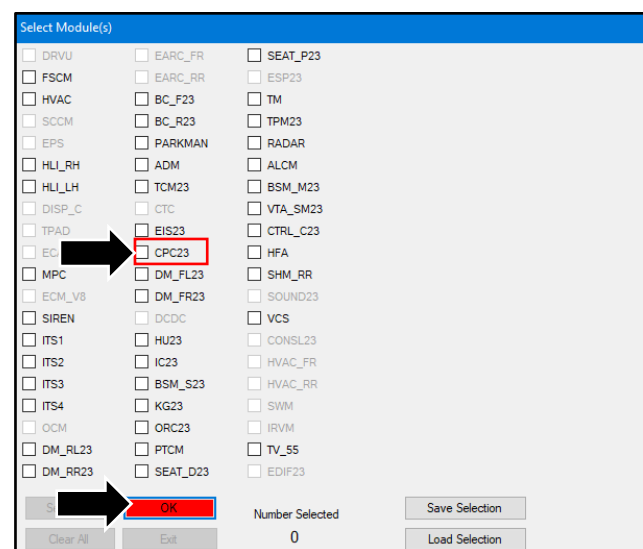

Figure 3
6. Select the "CPC23" module then click the "OK" button (refer to Figure 3).